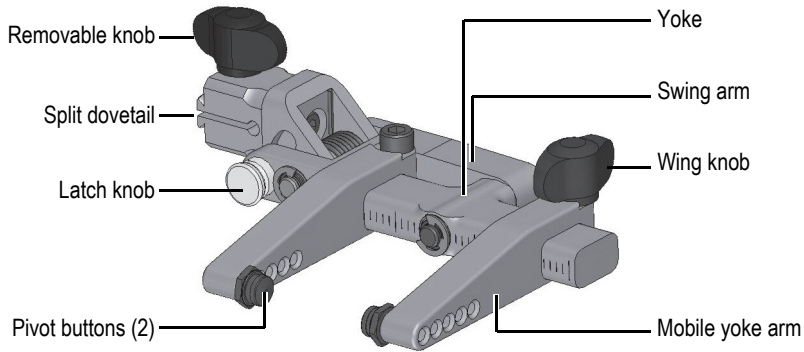

Figure 2-7 Probe-holder assembly parts
The ChainSCANNER can hold a pair of conventional UT probes or a pair of phased array probes. The probes are mounted on probe holders (see Figure 2-7 on page 40) that need the following types of adjustments:
The removable knob mounted on the swing arm allows for a precise positioning of the probe holder along the slide assembly or the slide bar (see Figure 2-7 on page 40).
The swing arm holds the yoke and ensures a constant contact pressure between the probe-wedge assembly and the surface being inspected. A latch knob allows for releasing the spring pressure to ease the installation of a wedge-probe assembly (see Figure 2-7 on page 40).
The yoke is the U-shaped part holding the wedge-probe assembly. Assembled to the swing arm with bearings, the yoke rotates to maintain the wedge parallel to the surface being inspected. The pivot buttons also allow the wedge to swivel (see Figure 2-7 on page 40).
- ◆ Lift the swing arm upward until the latch knob engages itself with a click. See Figure 2-7 on page 40 for the location of the latch knob.
2. Pull out the latch knob and slowly release the swing arm. See Figure 2-7 on page 40 for the location of the latch knob.